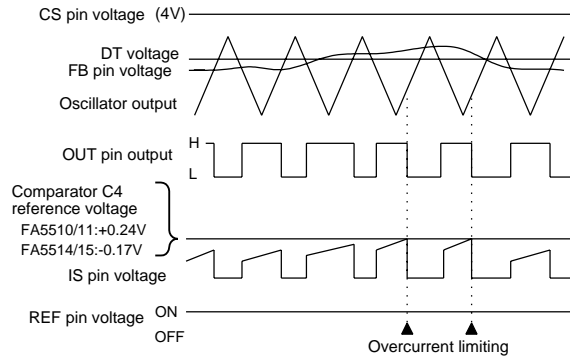
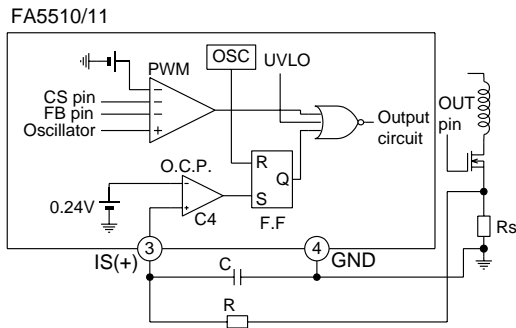
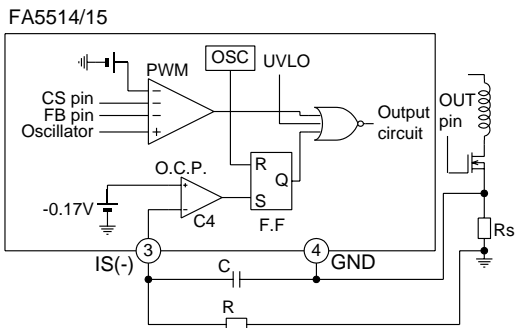

Fig. 15 Overcurrent timing chart
Fig. 13 Overcurrent limiting circuit (FA5510/11)
Fig. 14 Overcurrent limiting circuit (FA5514/15)
The overcurrent limiting circuit detects the peak value of every drain current pulse (pulse by pulse method) of the main switching MOSFET to limit the overcurrent. The detection threshold voltage is +0.24V for FA5510/11 or -0.17V for FA5514/15 with respect to the ground as shown in Figure 13 and Figure 14. The drain current of the MOSFET is converted to voltage by resistor  $R_s$  and fed to the IS pin of the IC. If the voltage exceeds the reference voltage +0.24V (FA5510/11) or -0.17V (FA5514/15) of comparator C4, comparator C4 works to set flip-flop output Q to high. The output is immediately turned off to shut off the current. Flip-flop output Q is reset on the next cycle to turn on the output again. This operation is repeated to limit the overcurrent.
If the overcurrent limiting circuit malfunctions due to noise, place an RC filter between the IS pin and MOSFET as shown in Figure 13 and Figure 14. (See item 12 in "Design advice.") Figure 15 is a timing chart that illustrates overcurrent-limiting operations.